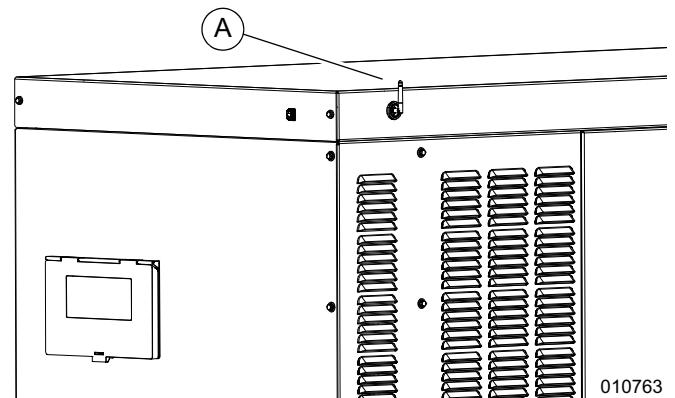

Figure 1. Attach Antenna
See Figure 1. Thread antenna (A) into Mobile Link device. Rotate antenna clockwise until secure, and position antenna pointing up.